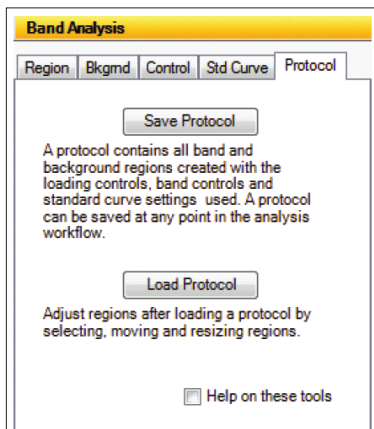

Figure 18. The Band Analysis Module showing the Protocol tab.
7. Saving Protocol and Analysis Settings. The Protocol tab is used to save and load protocols for use on replicate blots (Figure 18). A protocol or analysis contains all band and background regions created with the loading controls, band controls and standard curve settings used. A protocol or analysis may be saved at any point in the analysis workflow.